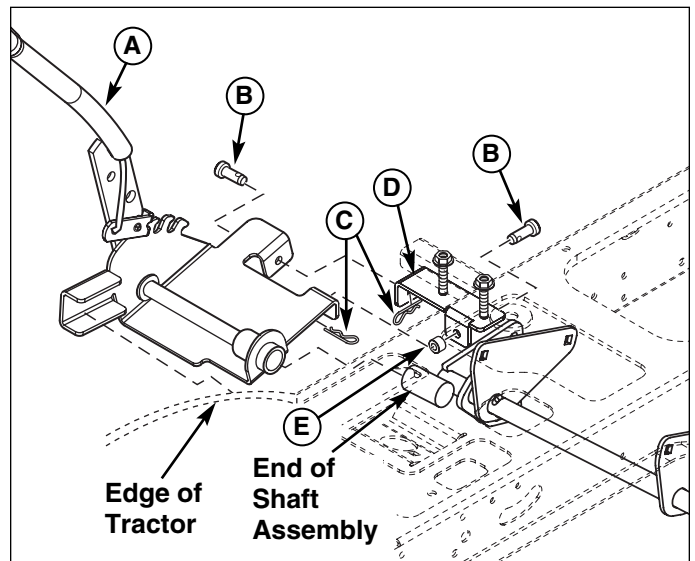

Figure 8. Install Lift lever Assembly
1. Slide the lift lever assembly (A, Figure 8) on to the end of the shaft assembly and on to the edge of the tractor.
2. Secure to mounting bracket (D, Figure 8) using clevis pins (B), spacer (E), and hair pins (C).
1. Remove Lift Lever Assembly (A, Figure 8).